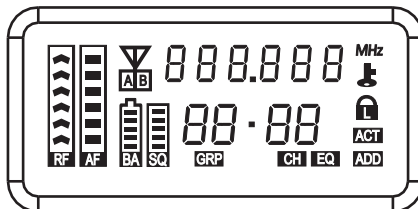

Fig. 9
2. Lightning VFD Screen, Fig. 9: